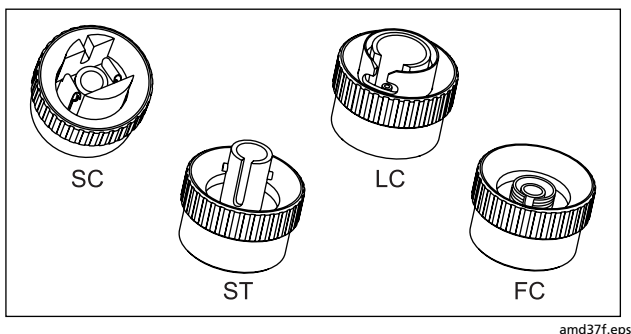

Figure 7-3. SC, ST, LC, and FC Connector Adapters
- ① Button for activating the visual fault locator (2) and output port (4). See Chapter 8 and “Autotest in Far End Source Mode” on page 7-18.
- ② Universal fiber connector (with dust cap) for the visual fault locator output. The connector accepts 2.5 mm ferrules. The LED below the connector indicates the locator’s mode (continuous or blinking).
- ③ Input connector with dust cap. Receives optical signals for loss, length, and power measurements. You can change the connector adapter to match the connectors on the fiber under test. See Figure 7-3.
- ④ SC output connector with dust cap. Transmits optical signals for loss and length measurements.
You can change the fiber module's input connector adapter to connect to SC, ST, LC, and FC fiber connectors (Figure 7-3). Additional adapter styles may be available. Check the Fluke Networks web site for updates.